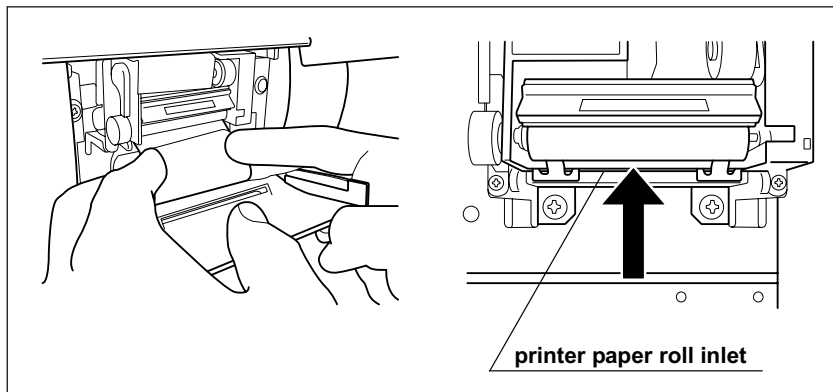
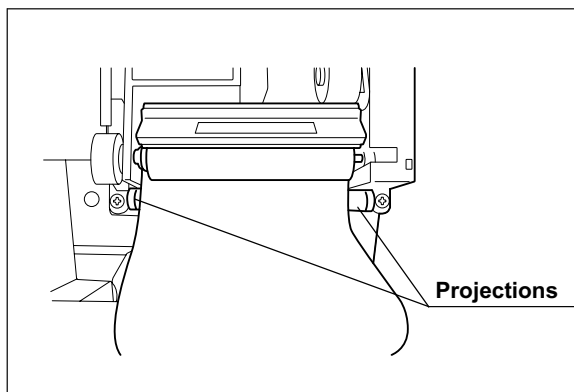

Figure 7.104
Figure 7.105
8. Hold the two edges of the printer paper roll as shown in Figure 7.104 below and insert the paper into the printer paper roll inlet of the printer. Insert so that the printer paper roll is between the projections as shown in Figure 7.105.